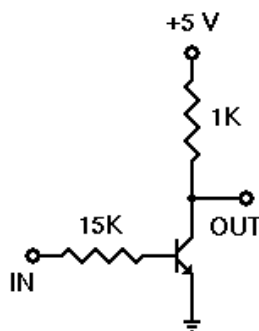

Fig.2.2: RTL Inverter
1. Set up the circuit for RTL inverter as shown in Fig.2.2.